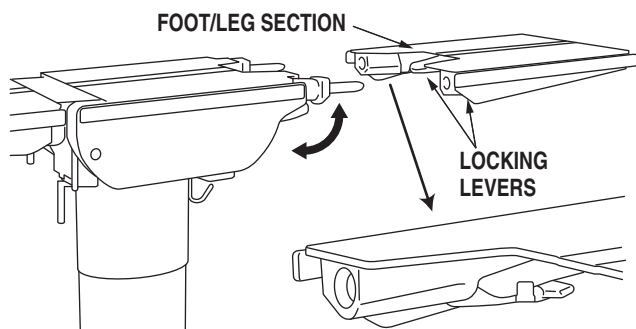

Figure 2-22. Leg Section Removal
a. The Leg Section and the Back Section on the 6702X tables are both removable. See figure 2-22 (Leg Section shown).